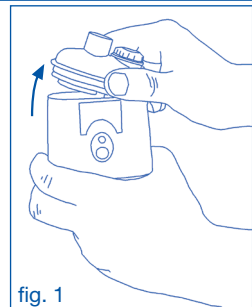

fig. 1
1. Remove the upper part (A3) from the unit body (fig. 1)
- Separate the unit (A) from the power, disconnecting the power cable (G)
- Remove the top part (A3) from the body (Fig. 1) and the connected accessory. .